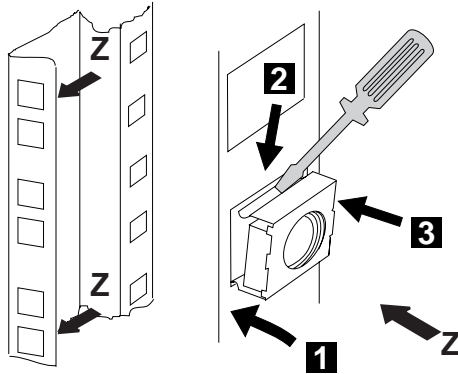

Figure 1-9. Installing the Captive Nuts for the 6275
12. ____ Refer to Figure 1-9, install four captive nuts (PN 58G5766) on the left and right side of the controller expansion.